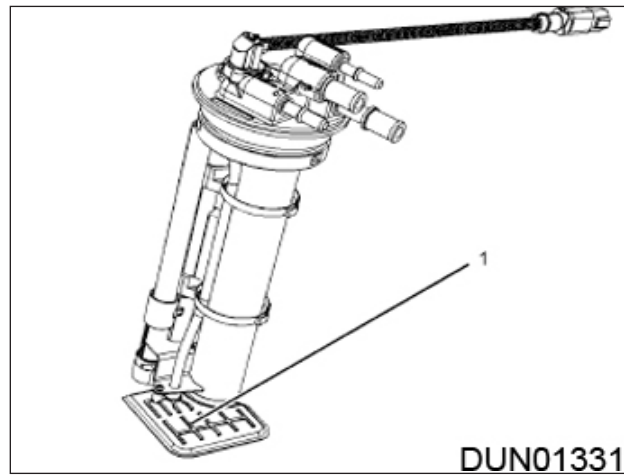

Figure 9.38 - DEF Manifold Filter
4. Remove the filter (Item 1; Reference: Figure 9.38) and replace with a new one.